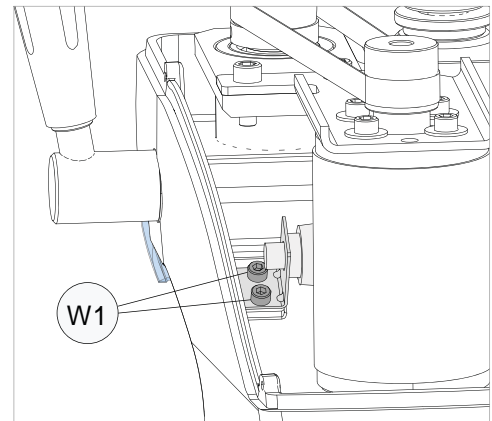
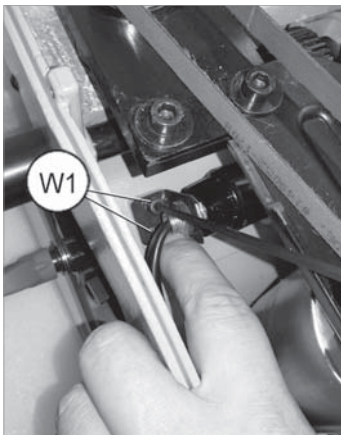

Fig. 38
Fig. 39
- 3) Carefully loosen the two screws (W1) and remove the lamp holder (W) (Fig. 38 - Fig. 39).
- 5) Fit the lamp holder (W) and secure it with the two screws (W1).